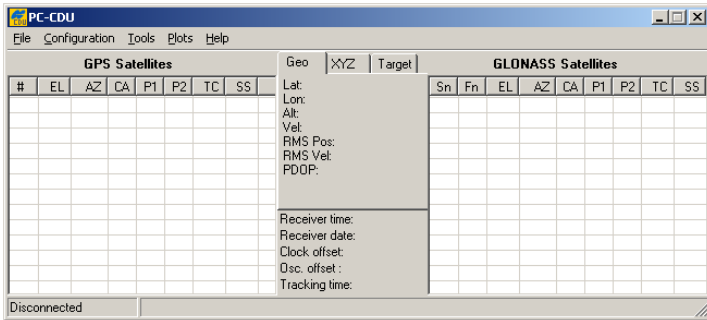

Figure 3-4. PC-CDU Main Screen
2. Start PC-CDU on your computer. The PC-CDU main screen displays (Figure 3-4).